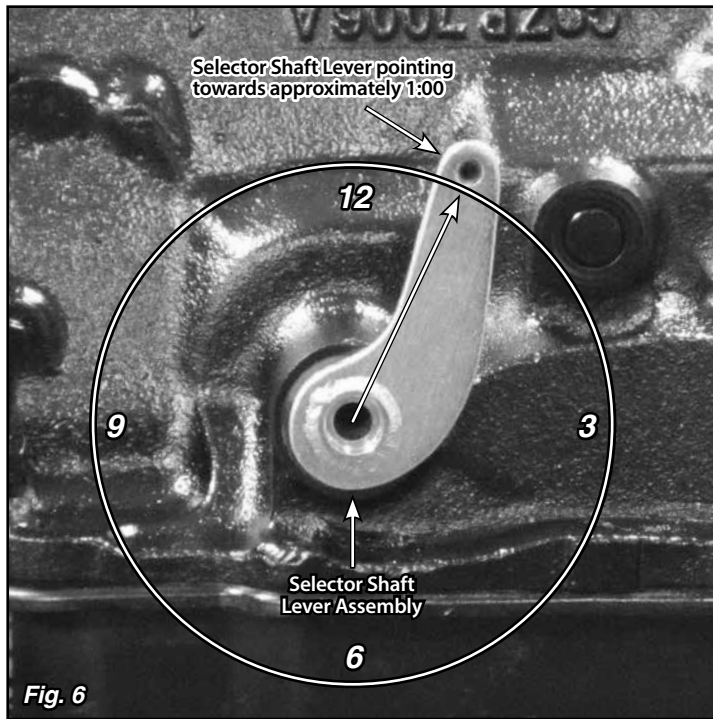

Fig. 6
Step 11: Make sure the transmission is in Park by rotating the selector shaft lever assembly clockwise as far as it will go. The selector shaft lever should be pointing up and slightly towards the rear, with the inside of the curve facing the front of the transmission like a backwards "C". The 1/4" hole in the end of the selector shaft lever should be at approximately the 1:00 position. **Fig. 6**